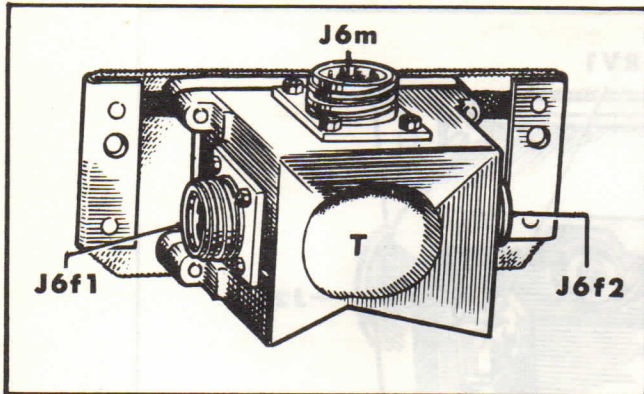

FIG 15 ADAPTER UNIT, HEADSET, T
16. This three way adapter is illustrated in Fig 15. It enables two headsets to be connected to one of the standard 6 contact Mk 4 headset sockets on a junction box or control unit. Adapter T consists of a box having two 6 contact output sockets, J6f1 and J6f2, connected in parallel with a 6 contact input plug, J6m, at the top.